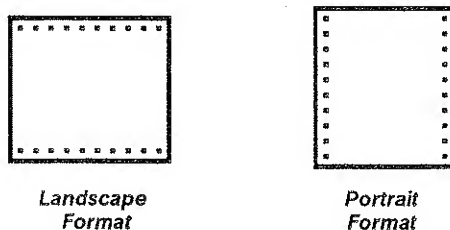

Figure 3-17: Hardcopy Formats
- ☐ **Step 2:** Select the appropriate side menu item. You can choose **Landscape** or **Portrait** (see Figure 3-17).